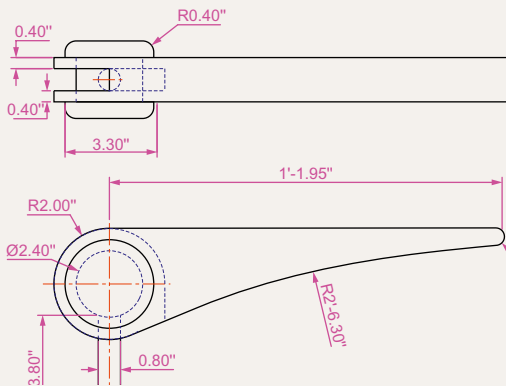
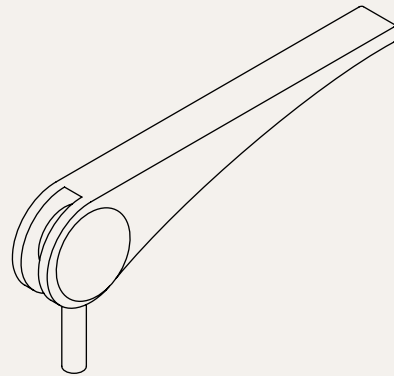

Fig. 13.18 Exercise 4 – orthographic projection
Fig. 13.19 Exercise 4
4. A two-view orthographic projection of a rotatable lever from a machine is given in Fig. 13.18 together with an isometric drawing of the 3D model constructed to the details given in the drawing Fig. 13.19.